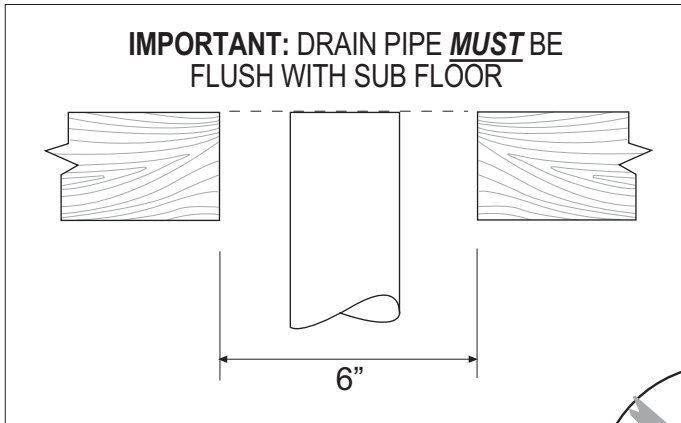

Fig. 2.1a Timber floor installation
**IMPORTANT** Drain pipe **MUST** finish **FLUSH** with sub floor as illustrated Fig 2.1a and 2.1b.